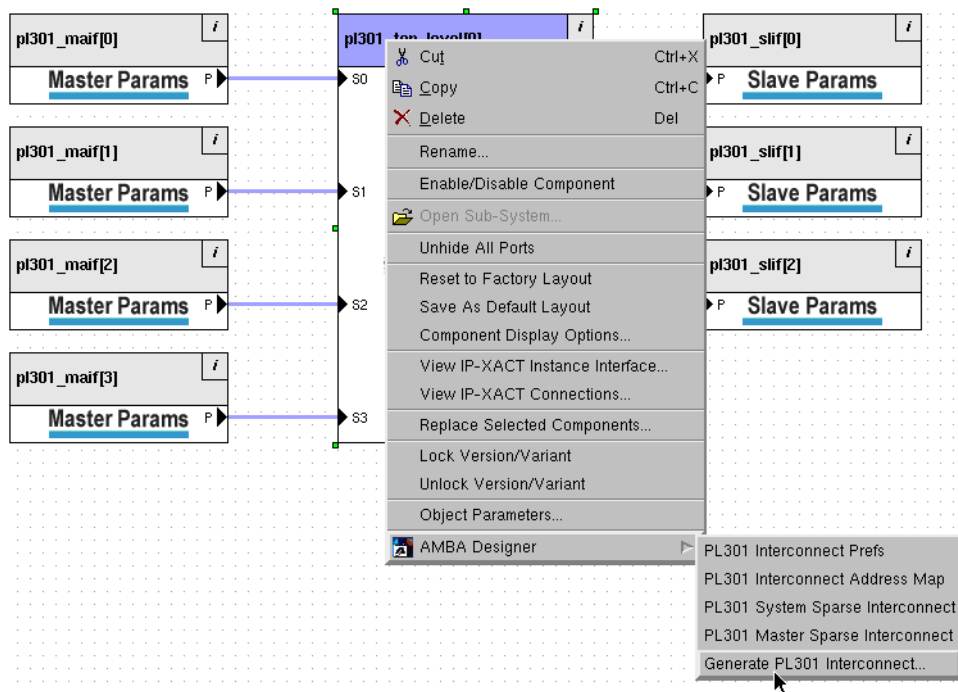

Figure 4-23 Generating the 4x3 interconnect
2. Select **AMBA Designer** → **Generate PL301 Interconnect...** from the context menu, as Figure 4-23 shows.